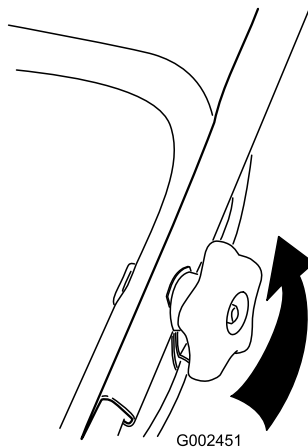

Figure 41
1. Loosen the handle knobs until you can move the upper handle freely (Figure 41).